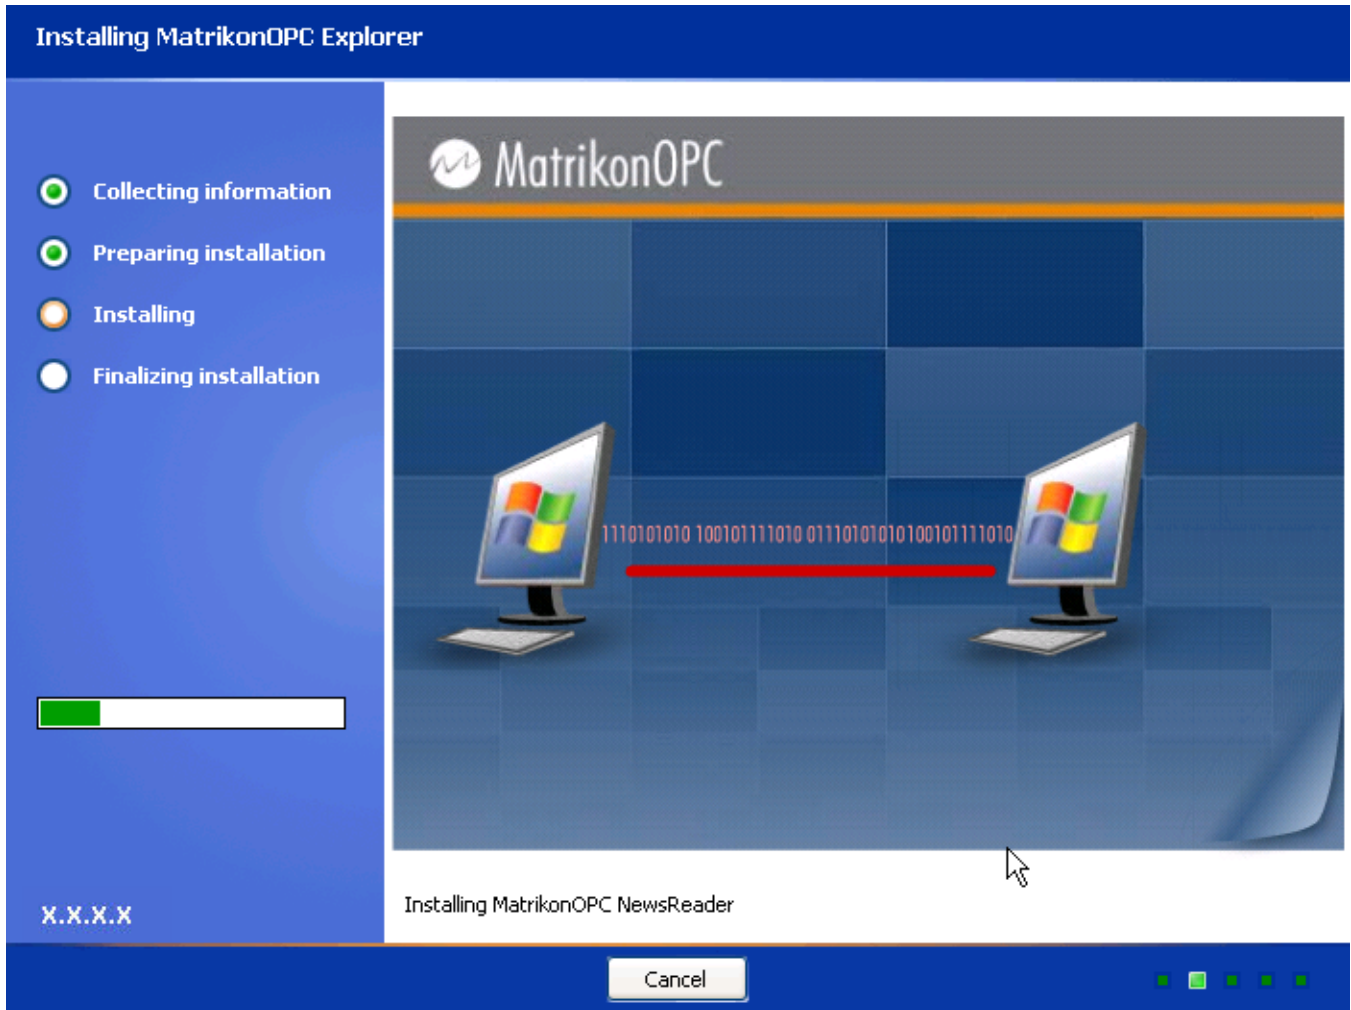

Figure 5 - Installing MatrikonOPC Explorer Screen
10. Click on the **INSTALL** button. The **Installing MatrikonOPC Explorer** screen (Figure 5) appears, installation begins and the server files are copied to the computer.